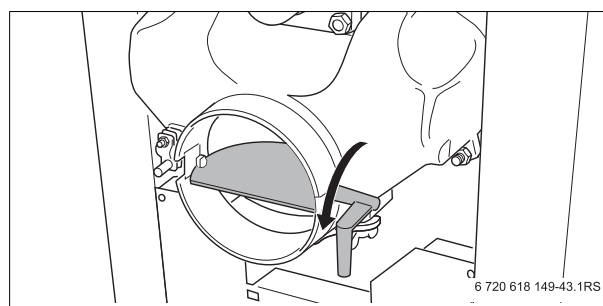
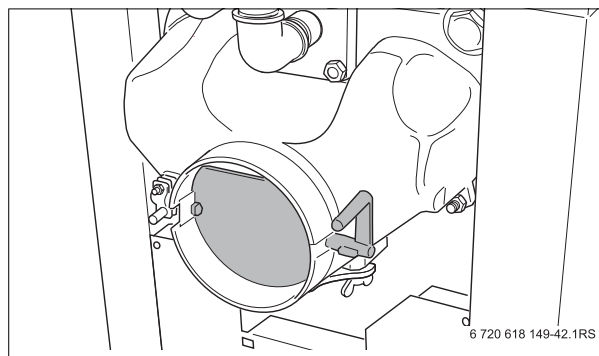

Fig. 32 Open the exhaust flap
Fig. 35 Closing the exhaust flap
- To prevent heat losses in the chimney, close the exhaust flap depending on the flue draft (→ Fig. 35). If the flue gases are not drawing properly (flue draft is not sufficient), open the exhaust flap a little again (→ Fig. 32, page 33).